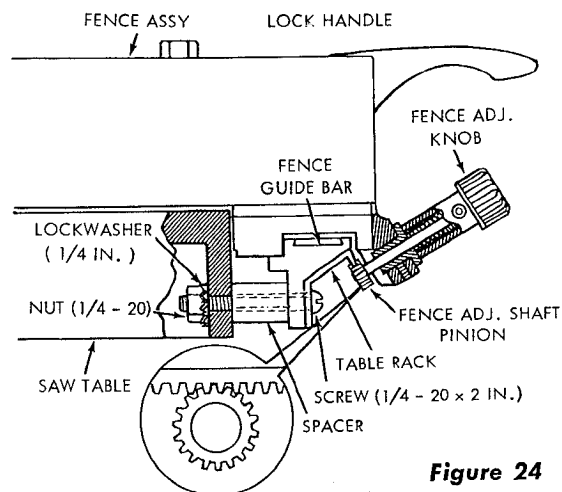
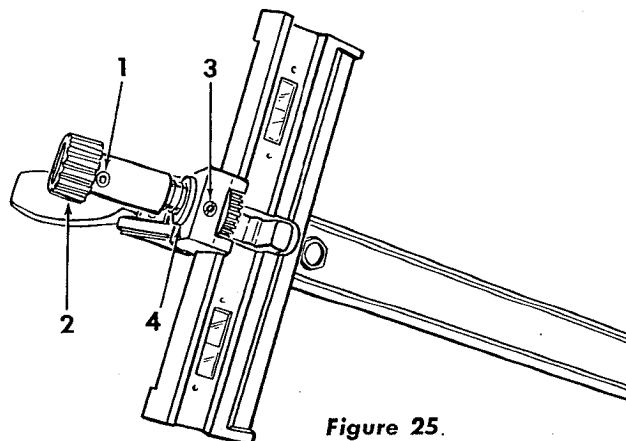

Figure 24
Figure 25.
- (3) Check for proper engagement (mesh) of teeth on fence adjusting shaft pinion with the gear teeth on underside of rack. (See figure 24.) The pinion should be adjusted up or down so that teeth are in full contact lengthwise. This adjustment is made as follows:
- (4) Push the fence adjusting knob all the way down and look underneath the rack to determine if pinion and rack teeth are aligned. (See figure 24.) If the pinion extends too far (or not far enough) loosen the set screw (1, figure 25) with a 1/8 inch hex-"L" wrench and slide the knob
- (5) To adjust for correct gear mesh (depth of tooth contact), loosen the set screw (3, figure 25) with a 1/8 inch hex-“L” wrench and rotate the eccentric (4) until proper mesh is obtained. Tighten the set screw (3) after adjusting and check for proper operation at various points along the rack.
- (6) Move the rip fence carefully across the central portion of table, by rotating the gear knob, to determine if the teeth engage the rack properly at the center division. The fence should pass over the center division of the rack smoothly. If any binding or resistance is noticed it may be necessary to loosen the guide bar attaching screws at one end and at the middle, and shift the rack enough to properly space the teeth at the center division. Several trials may be necessary.